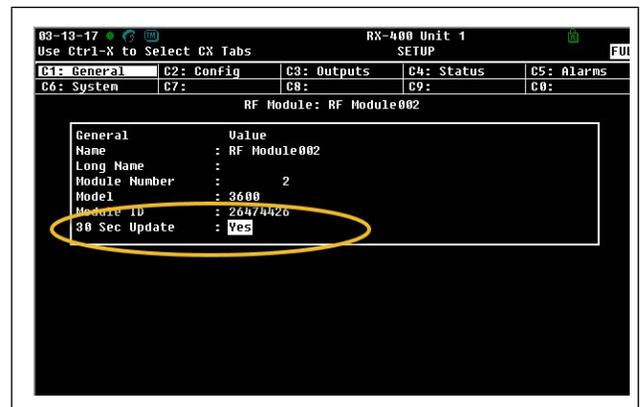

Figure 3-10 - Change RF Module 30 Sec Update
- Arrow down to 30 Sec Update as shown in Figure 3-10 and enter Y for Yes.